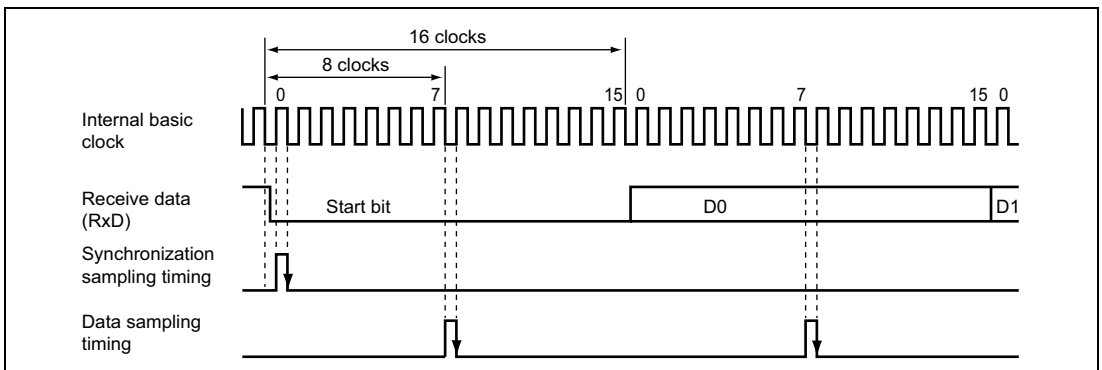

Figure 14.6 Receive Data Sampling Timing in Asynchronous Mode
In asynchronous mode, the SCI operates on a base clock with a frequency of 16 times* the bit rate. In reception, the SCI samples the falling edge of the start bit using the base clock, and performs internal synchronization. Since receive data is sampled at the rising edge of the 8th pulse* of the base clock, data is latched at the middle of each bit, as shown in figure 14.6. Thus the reception margin in asynchronous mode is determined by formula (1) below.